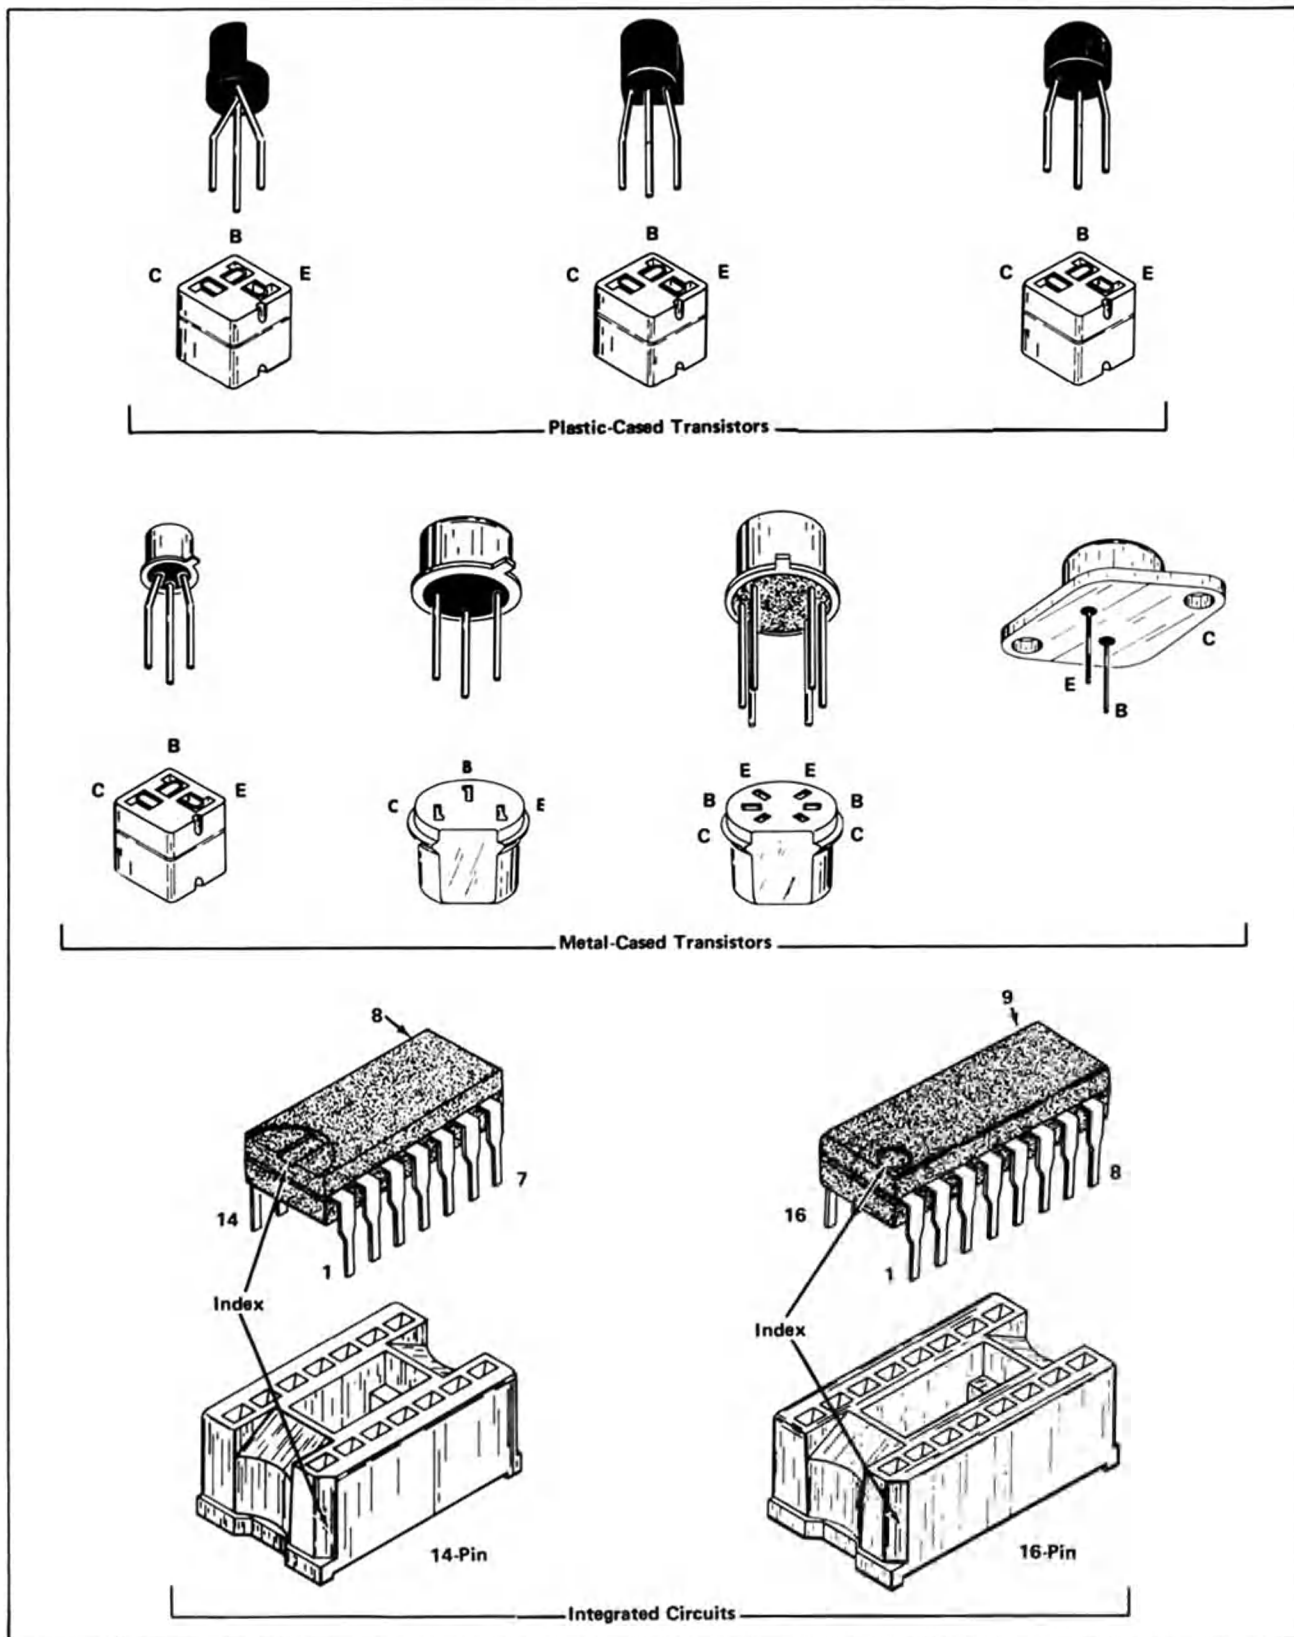

Fig. 4-1. Electrode configuration for semiconductors in this instrument.
**Semiconductor Lead Configuration.** Fig. 4-1 shows the lead configuration for the semiconductors used in this instrument. This view is as seen from the bottom of the semiconductors.